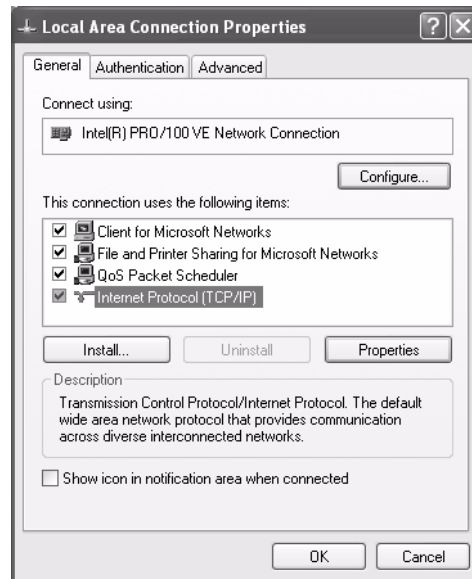

Figure 63: Local Area Connection Properties - Windows XP
3. Ensure that Client for Microsoft Networks and Internet Protocol (TCP/IP) are installed and checked as shown in Figure 63. If NetBEUI is installed, uninstall it